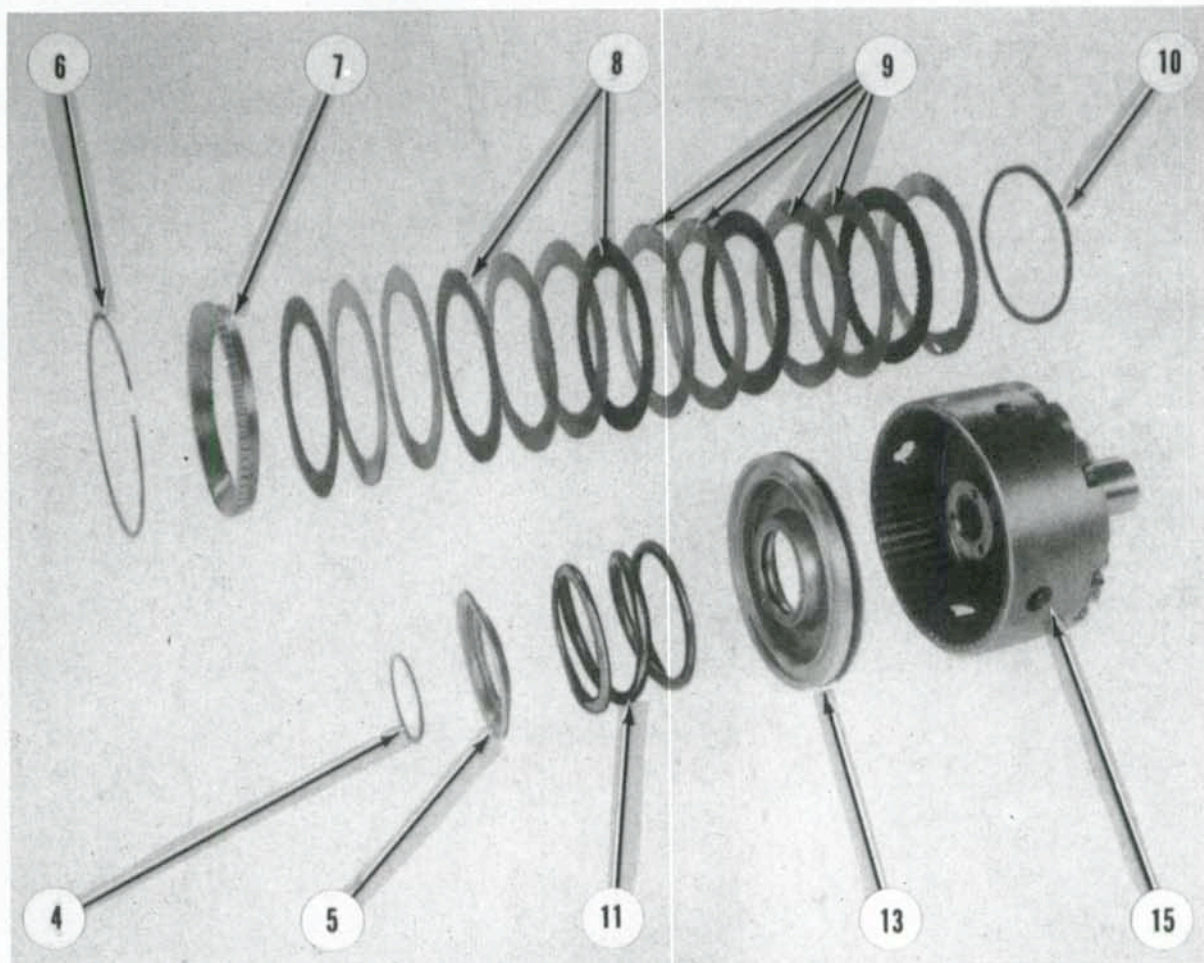

Fig. 260—On Models TW-5, TW-15 and TW-25, two externally splined driven plates (9) are installed between internally splined friction drive plates (8).
Beginning with a steel driven plate (9), assemble clutch pack in clutch housing, alternating friction drive plates (8) and steel driven plates. Note that two steel driven plates are installed between friction drive discs on Models TW-5, TW-15 and TW-25 as shown in Fig. 260. On Model TW-35, be sure that clutch plate retaining ring (6—Fig. 258) is positioned to cover the four retaining pin grooves in clutch housing and ends of ring are located around stop pin in housing to prevent ring from rotating.